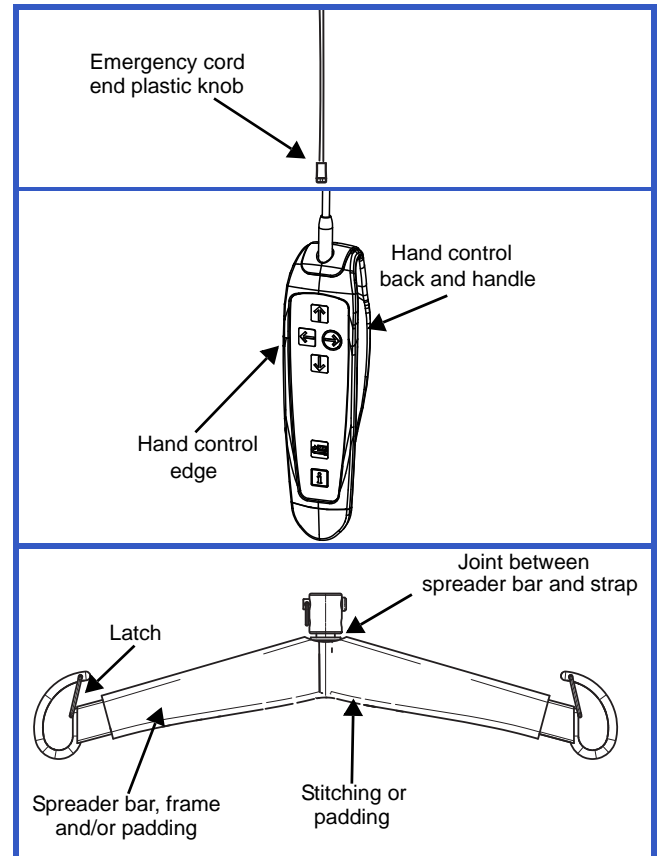

Fig. 36
**NOTE:** Pay special attention to areas pointed in Fig. 36. These are most likely to enclose germs. Use a smaller brush and/or cotton swab to reach them.